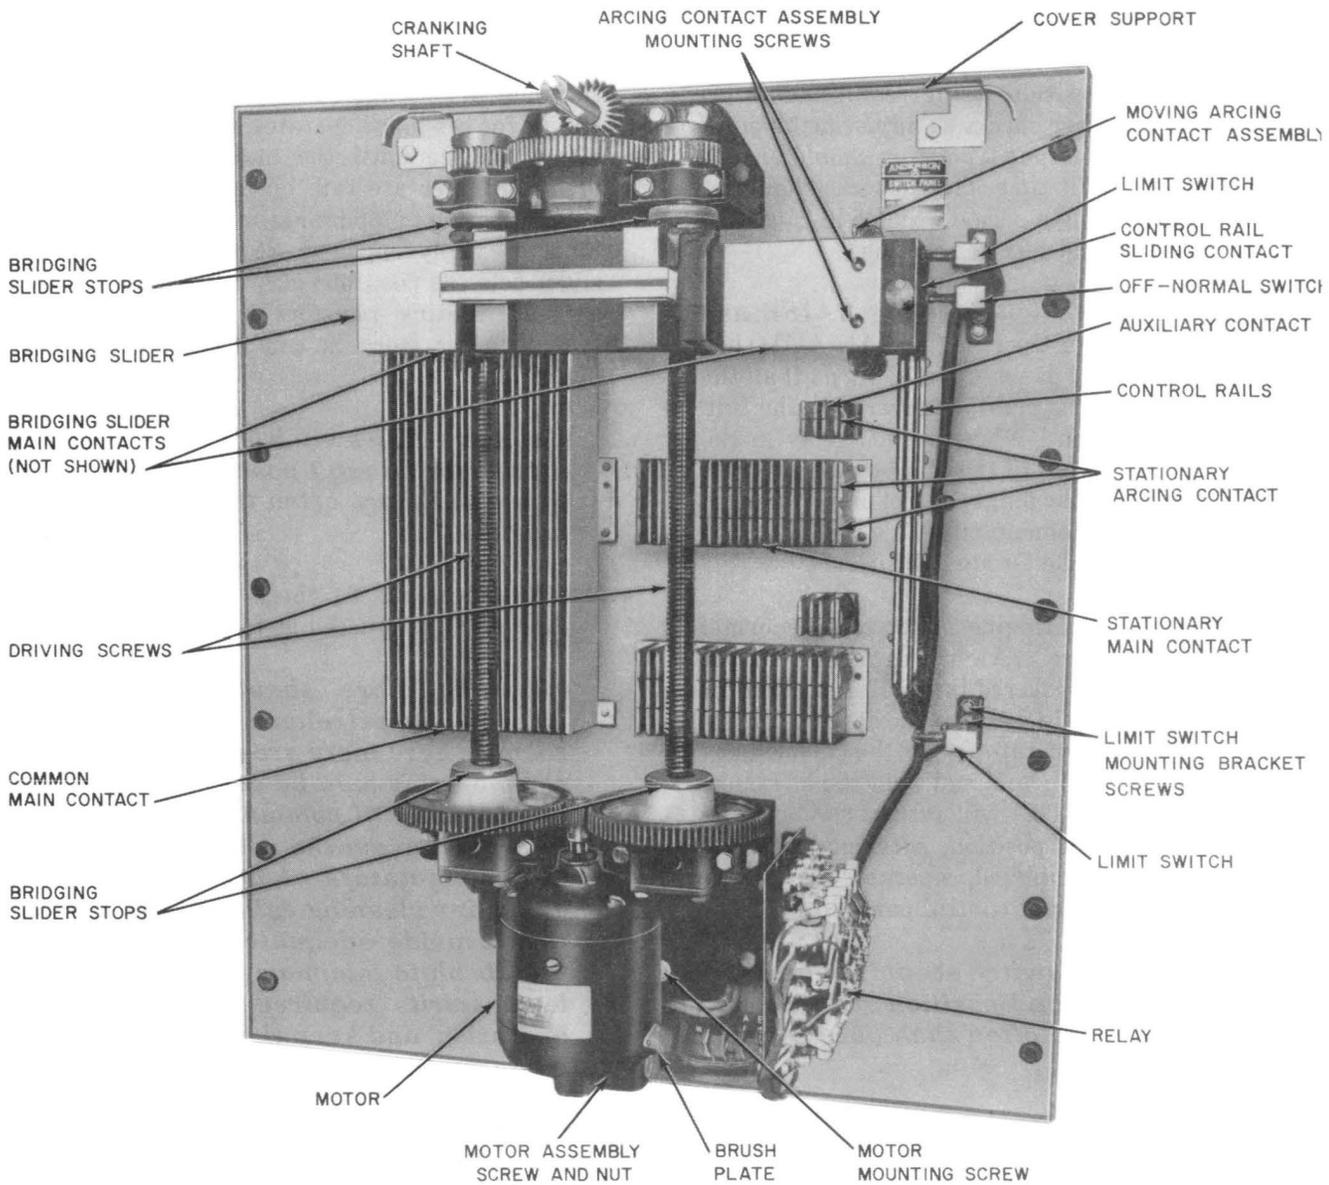

Fig. 1—KS-15624, L4, Switch Panel (Cover Removed)
(a) **Contact Surfaces of Main Contacts, Auxiliary Contacts, and Knife Switch Contacts:** Fig. 1 and 2—The contact surfaces of the main contacts, auxiliary contacts, and where provided, the knife switch contacts shall be
4.04 Mounting of Contacts (Fig. 1 and 2): All contacts shall be securely fastened to their mounting.
4.05 Condition of Contacts, Clips, and Blades: To check condition of contact, clips, and blades, proceed as follows: (Fig. 1 and 2)
****4.06 Engagement of Movable and Stationary Main and Knife Switch Contacts** (Fig. 1 and 2):
****4.20 Mounting of Limit Switches and OFF-NORMAL Switch (Fig. 1 and 2):** The limit